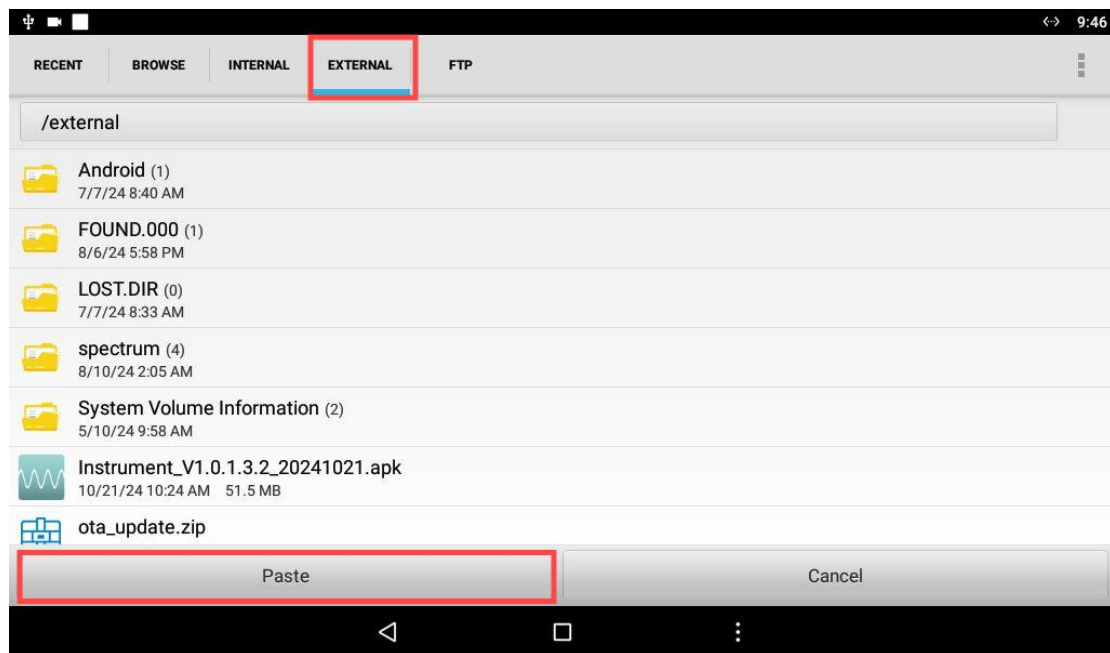

Figure 3-5
2. Click **"EXTERNAL"** directory, click **"Paste"**, as shown in Figure 3-5. The **"Instrument"** folder in the internal file is successfully copied to the external directory, as shown in Figure 3-6.